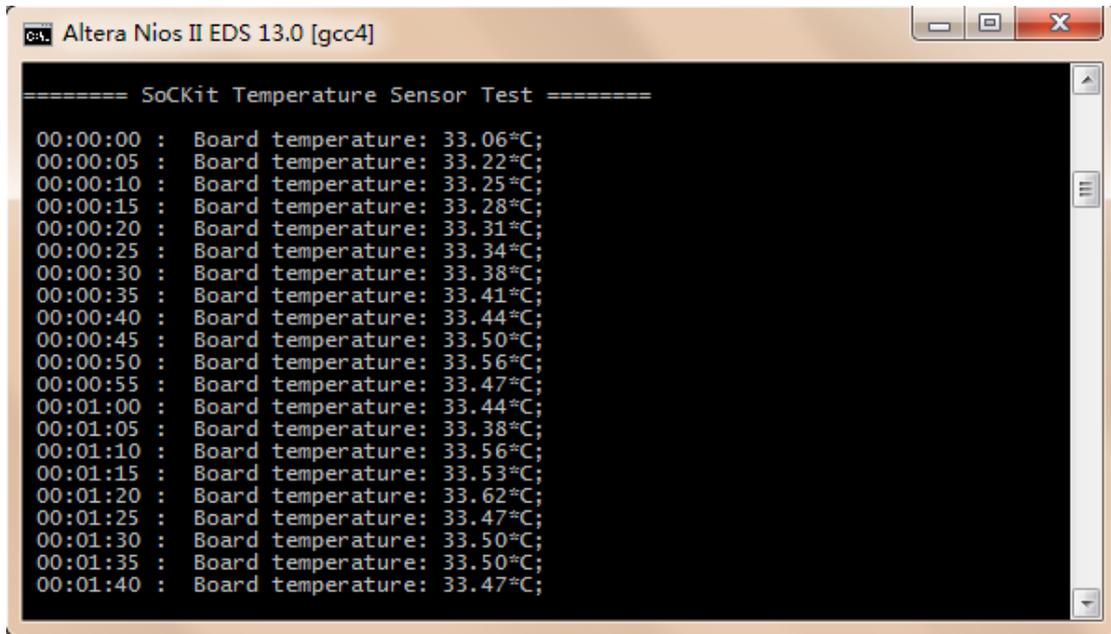

Figure 5-16 Running results of the Temperature demonstration
- After Nios II program is downloaded and executed successfully, the related information will be displayed in nios2-terminal , shown in **Figure 5-16**.